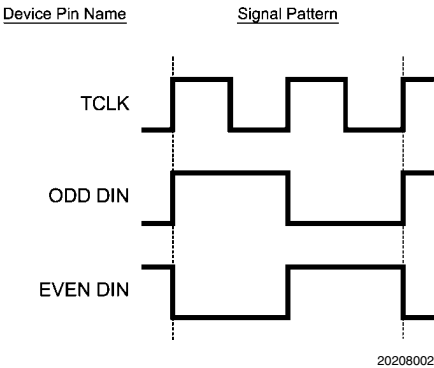
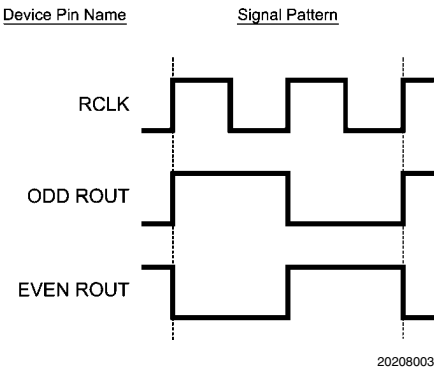
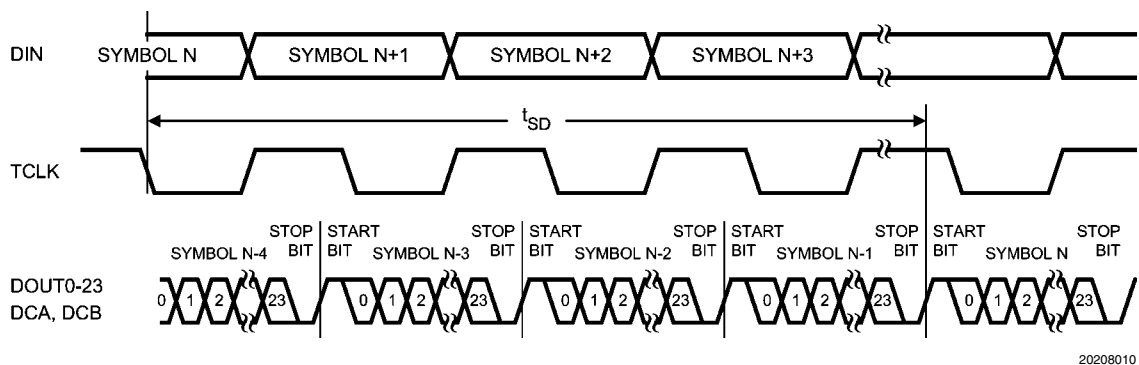

FIGURE 1. Serializer Input Checker-board Pattern
FIGURE 2. Deserializer Output Checker-board Pattern
FIGURE 8. Serializer Delay
**Note 10:** Figure 1 Figure 2 Figure 8 Figure 12 Figure 14 show a falling edge data strobe (TCLK IN/RCLK OUT).